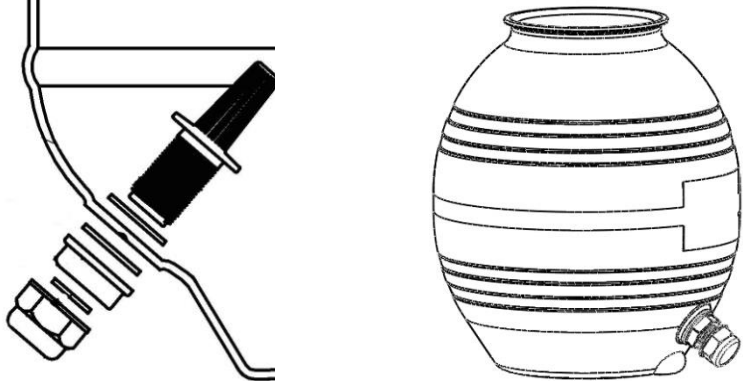

fig. 2
2. Install the drain plug assembly to sand tank as below pictures. (fig. 2)